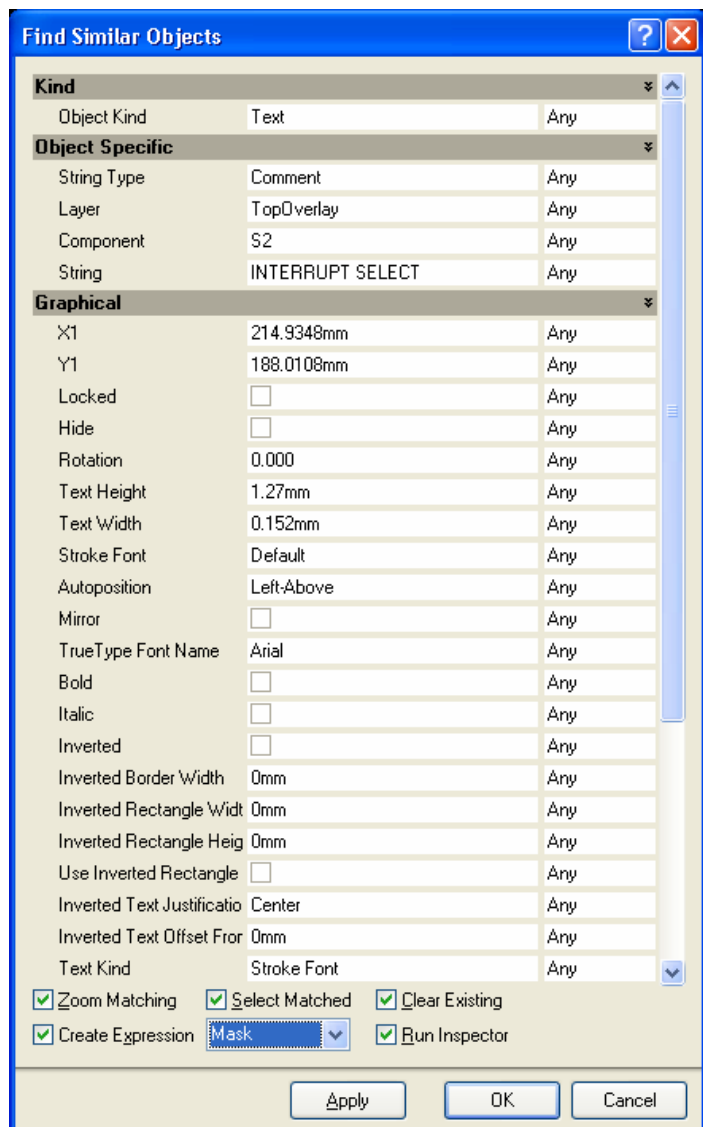

Figure 6. Using the *Find Similar Objects* dialog to highlight all component comments.
- This will select all objects that match the find criteria. Figure 6 shows the *Find Similar Objects* dialog configured to find and select all PCB text strings that are component comments.
3. The *Find Similar* dialog appears, presenting the attributes of the object clicked on. Note that the **String Type** attribute has a value of Comment. Set the match by setting for this attribute to **Same** (as shown in Figure 6).